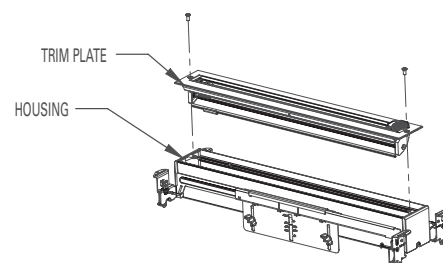
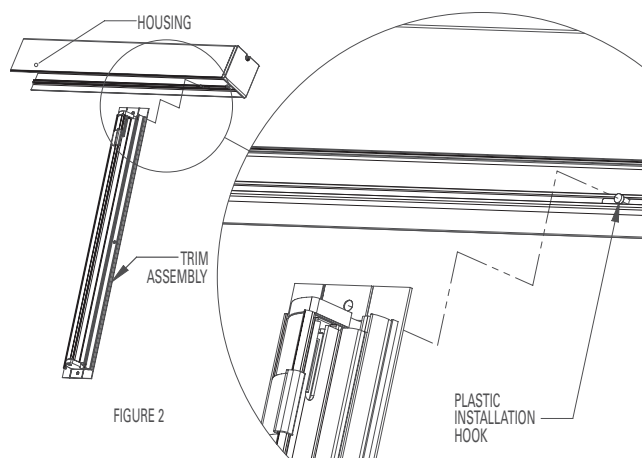

FIGURE 1
FIGURE 2
3. Remove the screws securing the trim plate to the housing (See Figure 1). Place the trim assembly and screws aside and save them for later installation. It is not necessary to disconnect the wire harness connecting the charger driver circuit board to the LED board. Instead, the trim plate can be hung from the sliding plastic installation hook (see figure 2).
4. Remove the screws securing the trim plate to the housing (See Figure 1). Place the trim assembly and screws aside and save them for later installation. It is not necessary to disconnect the wire harness connecting the charger driver circuit board to the LED board. Instead, the trim plate can be hung from the sliding plastic installation hook (See Figure 2).